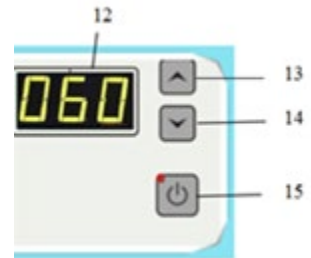

Figure 14
- The setting will be automatically saved and the unit returns the normal operating status after 10 seconds or by clicking  Key (15) (Figure 14).
- Under the normal operating status, press and hold Key (13) to view the temperature setting for drying; press and hold Key (14) to view the actual temperature of the unit; and click  Key (15) to turn off the heater for drying;